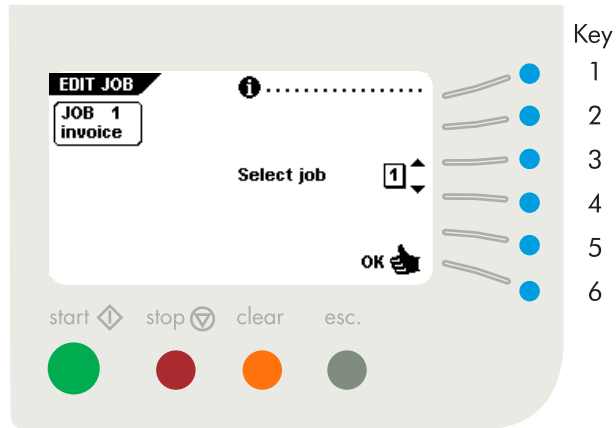

Fig. 32
When key 3 in the "job menu" is pressed, the display shows the "edit job" menu as shown in fig. 32. The initially selected job will be displayed. The "edit job" menu shows the following functions:
- Job information (key 1).
- choose a higher job number to edit (key 3).
- choose a lower job number to edit (key 4).
- select the job to edit and confirm with "OK" (key 6) which will get you to the "job settings" menu. All job settings are described in 6. Job settings on page 17.